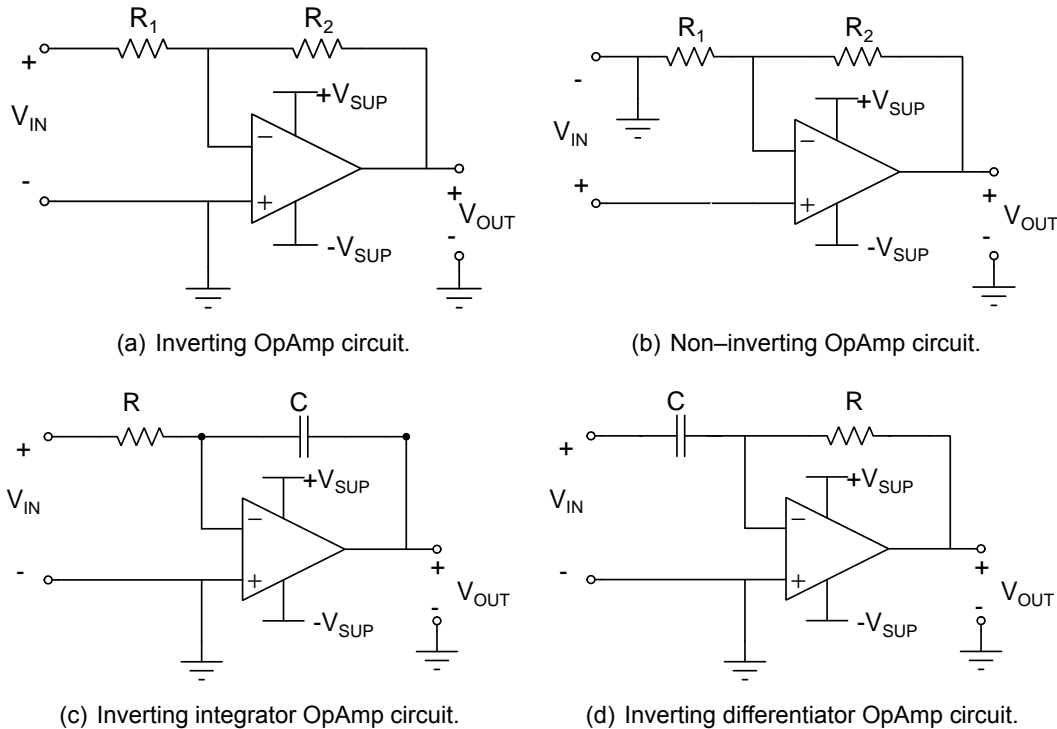
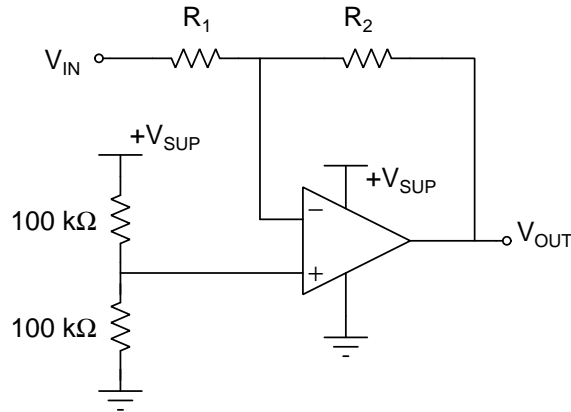

Figure 1: Four basic OpAmp circuits using negative feedback.
Figure 2: Inverting OpAmp circuit operated from a single power supply.
1. Review the ideal OpAmp circuits from ECE 210 and make sure you are able to calculate the transfer function, $V_{OUT}(t)$ as a function of $V_{IN}(t)$, for each of the four OpAmp configurations shown in **Figure 1**. These OpAmps use dual-rail voltages ($\pm V_{SUP}$), and negative feedback to achieve amplification within the active region of operation.
2. Design an inverting OpAmp circuit, shown in **Figure 1(a)**, with a gain of -8 V/V and an input resistance between 5 k Ω and 100 k Ω .
3. Simulate the inverting OpAmp circuit designed in **Pre-Lab item 2**.
4. Design a non-inverting OpAmp circuit, shown in **Figure 1(b)**, with a gain of +12 V/V and an input resistance between 5 kΩ and 100 kΩ.
5. Verify the design by simulating the non-inverting OpAmp circuit designed in **Pre-Lab item 4**. Set the input signal to a sine wave, with an amplitude of 0.5 V_p, and a frequency of 2 kHz. Plot V_{OUT} and V_{IN} as a function of time. What are the gain and phase shift of the output with respect to the input? How do the results from the LM741 OpAmp compare with an ideal OpAmp?
6. Design an inverting integrator OpAmp circuit, shown in **Figure 1(c)**, with a gain of -6 V/V when the input is a sine waveform with a frequency of 2 kHz. Set the capacitance value to 0.1 μF.
7. Verify the design by simulating the inverting integrator OpAmp circuit designed in **Pre-Lab item 6**. Set the input signal to a sine wave, with an amplitude of 0.5 V_p, and a frequency of 2 kHz. Plot V_{OUT} and V_{IN} as a function of time. What are the gain and phase shift of the output with respect to the input? How do the results from the LM741 OpAmp compare with an ideal OpAmp?
8. OpAmp circuits can be modified to operate from a single rail voltage. This is illustrated in **Figure 2** for the inverting amplifier configuration. In this circuit, $-V_{SUP} = 0$ V, and the non-inverting input (v_n) is biased at $+V_{SUP}/2$. This circuit will be utilized in Lab 5. Draw the schematic of the non-inverting OpAmp configuration shown in **Figure 1(b)** when operated from a single rail voltage.
2. Build the non-inverting OpAmp circuit designed in Pre-Lab **item 4**.
3. Build the inverting integrator circuit designed in Pre-Lab **item 6**.
4. Build the inverting differentiator shown in **Figure 1(d)** with $R = 1\text{ k}\Omega$ and $C = 0.1\text{ }\mu\text{F}$. What is the relationship between V_{OUT} and V_{IN} for this circuit?